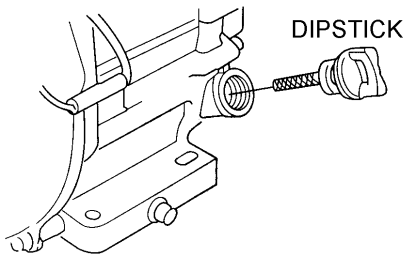

Figure 4. Engine Oil Dipstick (Removal)
2. Remove the filler dipstick from the engine oil filler hole (Figure 4) and wipe clean.